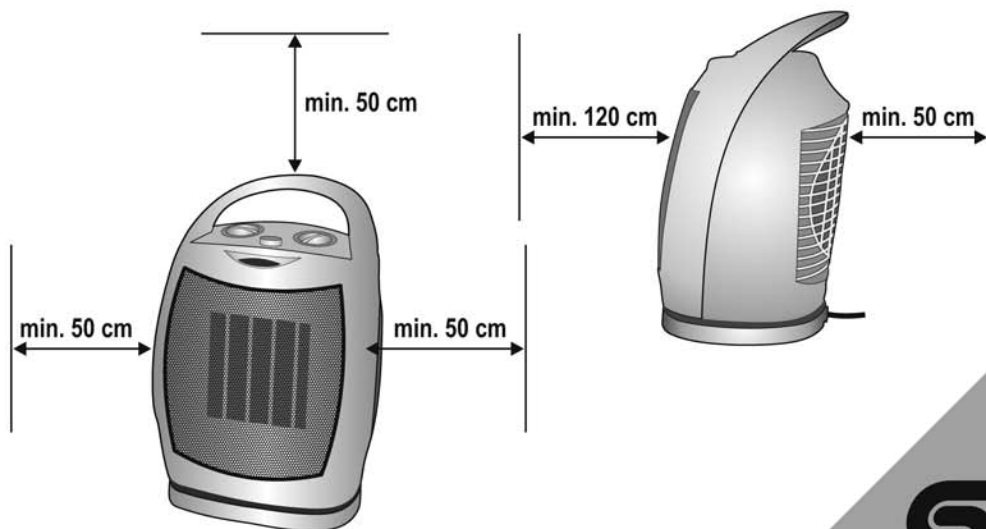

figure 2. • 2. ábra • 2. obraz • figura 2. • 2. skica • 2. skica • 2. obrázek • rys. 2. • 2. slika
3. Set the appliance on a stable and horizontal surface. The free flow of warm air must be ensured for proper operation, therefore, please note the minimum installation distances indicated in Figure 2.
4. Verify that the unit's mode selector (3) is in the OFF "0" position.
2. Never locate the unit directly in corners and observe the minimum mounting distances indicated in Figure 2. Always observe the health and safety regulations valid in the country of use.